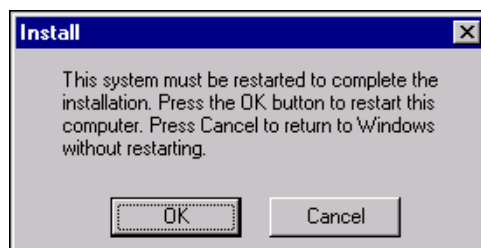

Figure 1-17. Install Restart Message
- On the “Install” message box (Figure 1-17), note that the system must be restarted. Click OK, and then wait as the system reboots. **Leave the CD-ROM in the drive through the system restart process.**
- 8. The “Install” message box (Figure 1-17) will note that the system must be restarted. Click OK, then let the system reboot. **Leave the CD-ROM in the drive.**